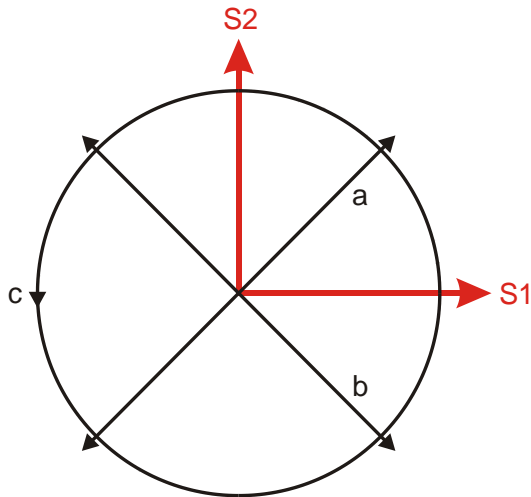
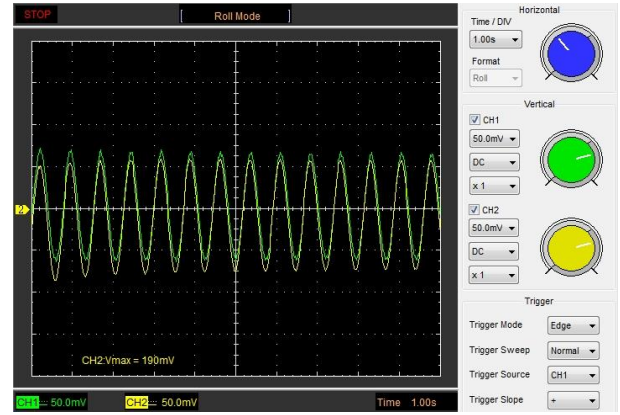

Fig. 2: The alignment of sensors S1 and S2, including the oscillation directions of the string pendulum under investigation
Fig. 7: Oscillation components for a string pendulum swinging along the line bisecting the two force sensors
- Slightly deflect the string pendulum and allow it to oscillate in a plane which bisects the alignment of the two force sensors (oscillation path a in Fig. 2). Observe the oscilloscope trace and save it.
- Slightly deflect the string pendulum and allow it to oscillate in a plane which is perpendicular to the one which bisects the two force sensors (oscillation path b in Fig. 2). Observe the oscilloscope trace and save it.
- Slightly deflect the string pendulum and allow it to oscillate in a circle (oscillation path c in Fig. 2). Observe the oscilloscope trace and save it.
When the pendulum is oscillating in the plane of the bisecting angle between the sensors, the two sensors will experience symmetric loading (oscillation path a in Fig. 2). The signals from the two force sensors will be in phase, i.e. the phase shift between them will be $\varphi = 0^\circ$ (Fig. 7).
When the pendulum is oscillating in the plane perpendicular to the bisecting angle between the sensors, the two sensors will experience asymmetric loading (oscillation path b in Fig. 2). The signals from the two force sensors will be wholly out of phase, i.e. the phase shift between them will be $\varphi = 180^\circ$ (Fig. 8).